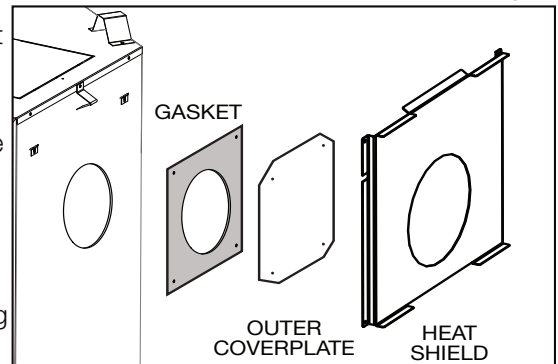

Fig. 2
- Remove the four screws securing the rear heat shield, set aside the shield. Remove the four screws securing the gasket and outer coverplate. **(Fig. 2)**.